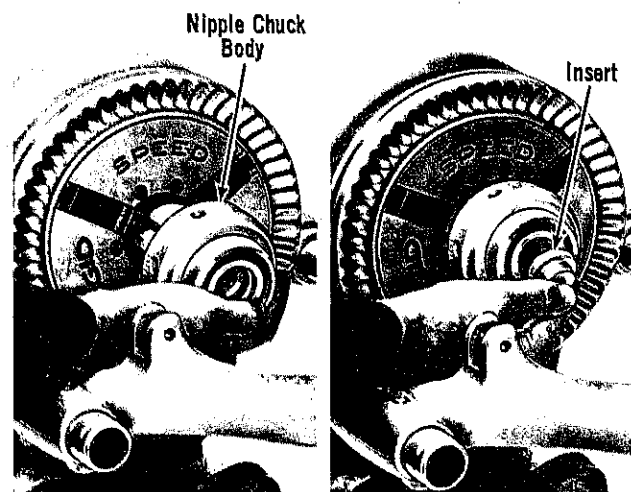

Figure 24. Installing Nipple Chuck Body and Insert.
2. Place Nipple Chuck Body (Fig. 24) in Power Drive chuck, gripping jaw grooves.
3. Position Insert (Fig. 24) small end toward adapter with 1/8" to 3/4" pipe; large end with 1" pipe; no insert 1 1/4" pipe and up.